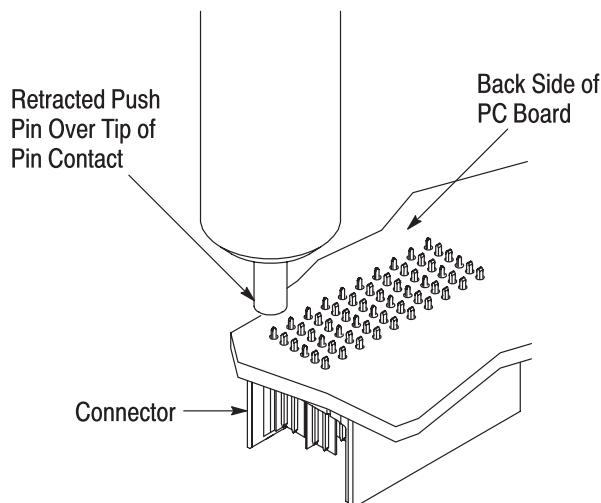

Figure 5
- Place the spring-loaded tip over the tip of the pin contact. See Figure 5.